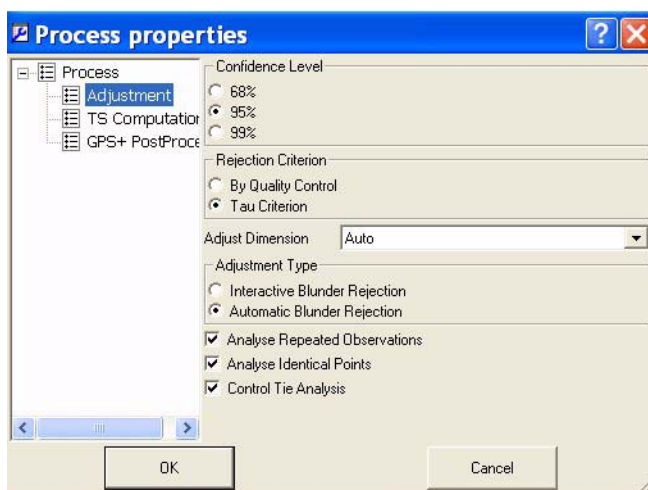

Figure B-5. Set Processing (Adjustment) Properties
- Select blunder and analysis settings for processing points, and executing tests, during an adjustment (**Process ▶ Process Properties**) (Figure B-5).